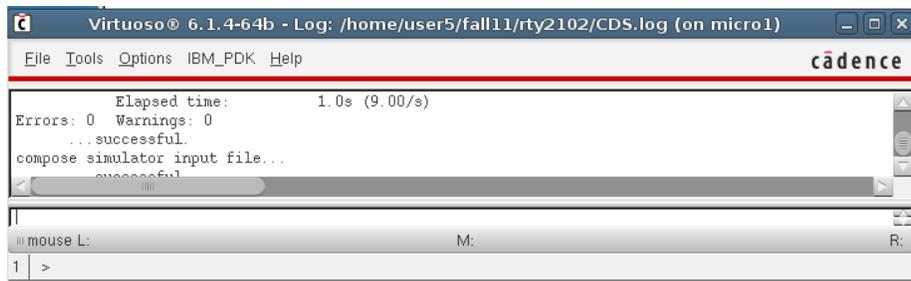

Figure 1: Virtuoso window
- `cd` to the Cadence directory and run `cadence` with `virtuoso &`. The Virtuoso window is the main Cadence window, shown in Figure1 and also serves as the console where error messages appear.